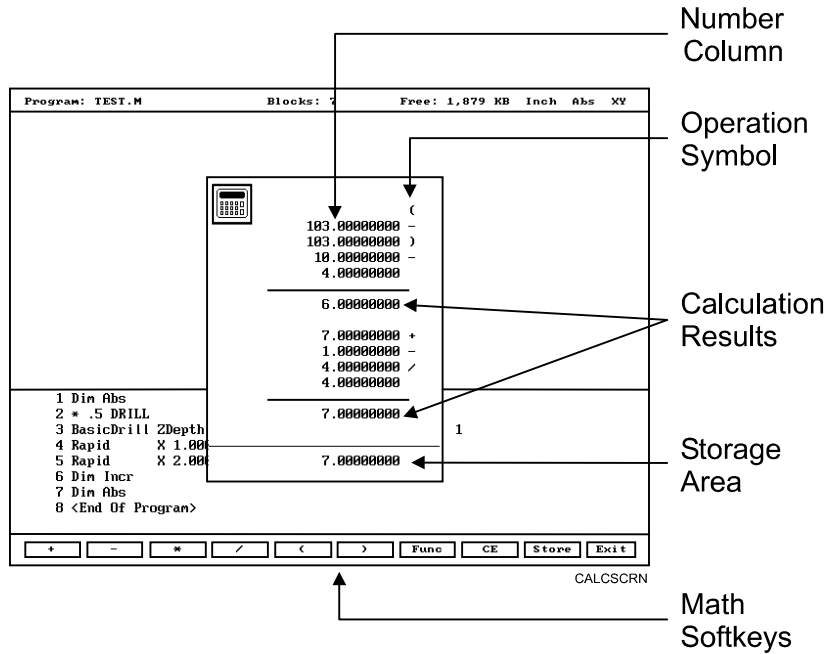

Figure 6-2, Math Calculator and Soft Keys
- Highlight the **Math Calculator** template and press **ENTER** to display the math calculator pop-up window. Refer to **Figure 6-2**.